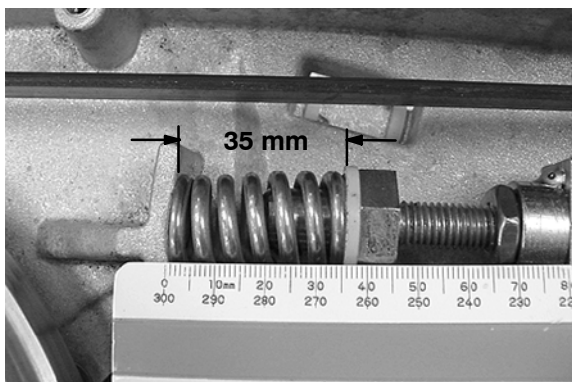

FIG. 72
2. To properly adjust the belt tension, turn the belt tension bolt until the tension spring is compressed to a length of 35mm (Figure 72). Tighten the tension bolt jam nut after adjusting.